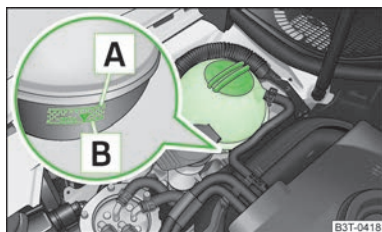

Fig. 143
When refilling, we only recommend you use the same antifreeze written on the antifreeze expansion tank » Fig. 143 on page 174.
- Check the level of coolant in the coolant expansion bottle » Fig. 143. The coolant level when the engine is cold must lie between the **B** (MIN) and **A** (MAX) markings. The level may also rise slightly above the **A** (MAX) marking when the engine is warm.
- Place a cloth over the cap of the coolant expansion reservoir » Fig. 143 on page 174 and unscrew the cap **carefully**.
Do not fill the coolant above the mark **A** (max.) » Fig. 143 on page 174! Excess coolant heats up and then is forced out of the cooling system through the pressure relief valve in the cap.